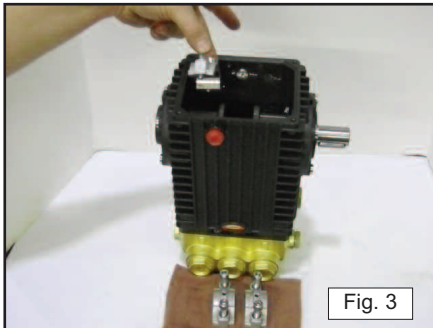

Fig. 3
8) Install each connecting rod cap back to original place. Fig. 3. Torque bolts to specifications. Fig. 12. Rotate crankshaft to assure smooth operation.